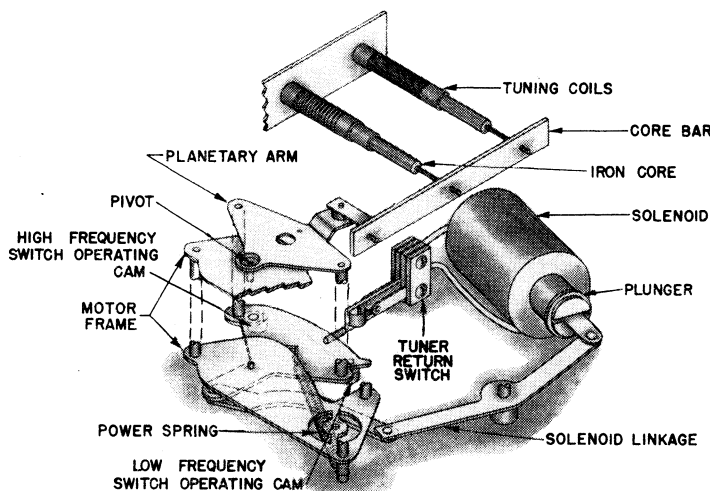

Fig. 3
### Section 1—Sweep and Return Cycle (See Fig. 3)
- B. Planetary Arm moves. (Fig. 3)
- A. The High Frequency Switch Operating Cam trips Tuner Return Switch. (Fig. 3)
- E. The Low Frequency Switch Operating Cam trips the Tuner Return Switch in the opposite direction. (Fig. 3)